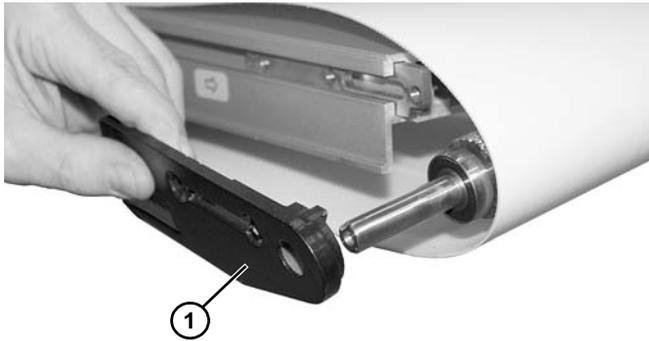

Figure 61
4. Remove the headplate (Figure 61, item 1) from the conveyor frame, holding spindle in place.